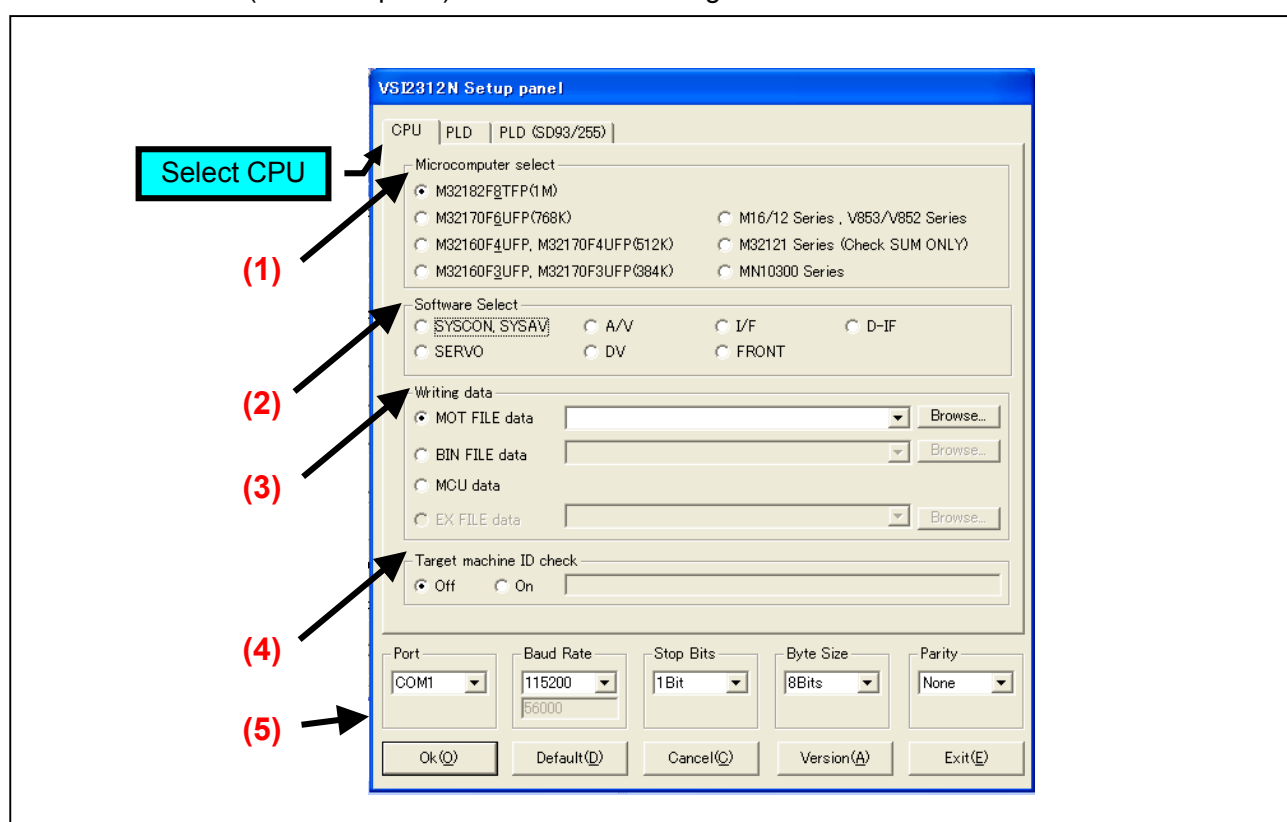

Figure 12-2B-1
4. Select the CPU (Microcomputer) sheet as shown in figure 12-2B-1.